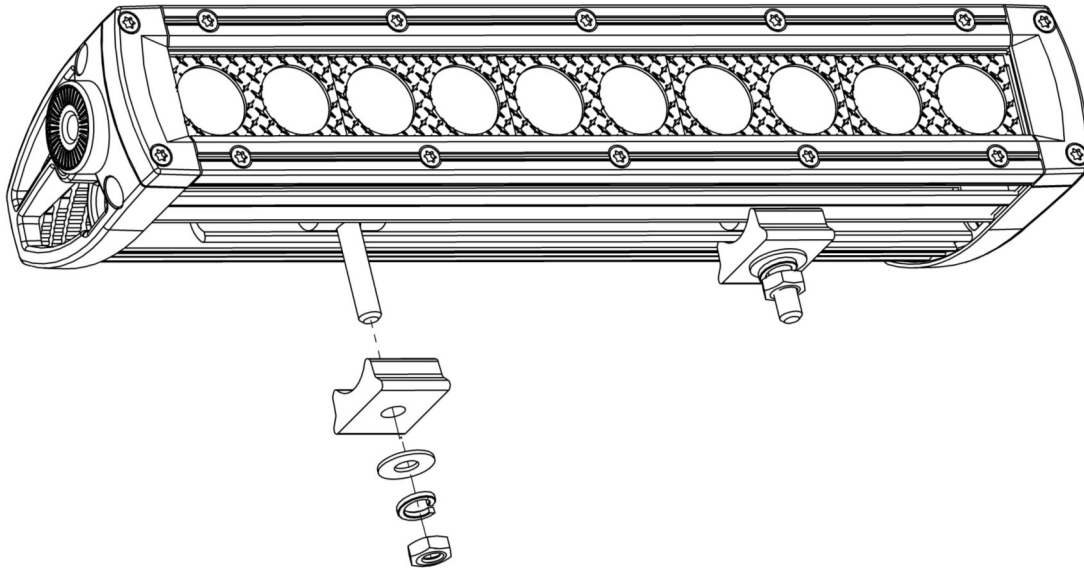

Figure 3
4. Loosely secure the brackets onto the M6 hex head bolts using the provided M6 hardware. See **Figure 3**.